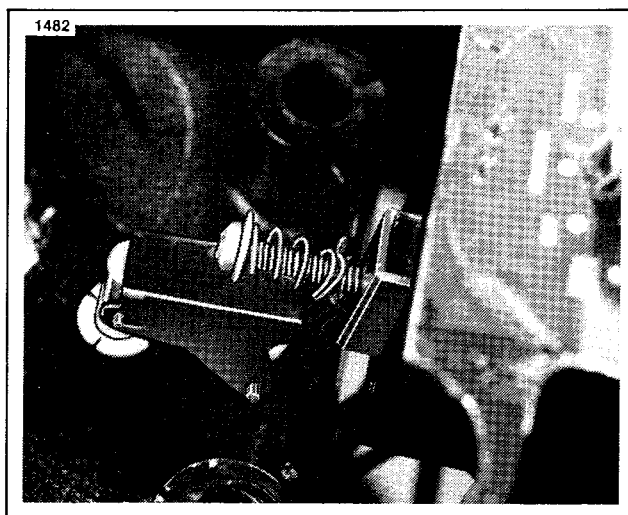

Figure 2. Position of Adjusting Screw Assembly
6. Remove fork lock adjusting screw, spring, and washer (see Figure 2).